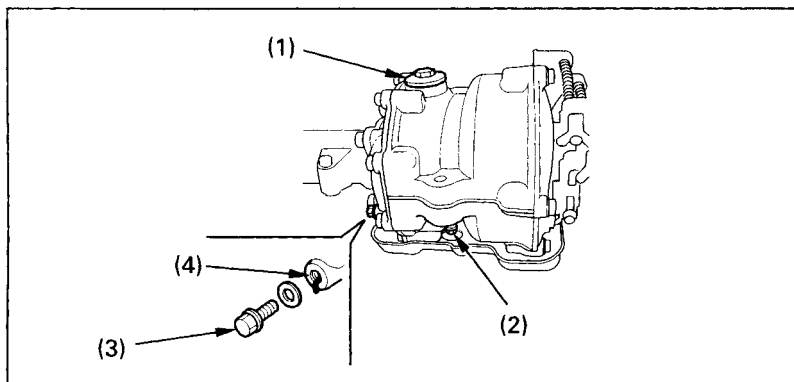

Fig. 4-13 (1) Oil filler cap
1. To drain the oil, first place an oil drain pan under the oil drain plug (Fig. 4-13).
2. Remove the oil filler cap (1) and the drain plug (2).